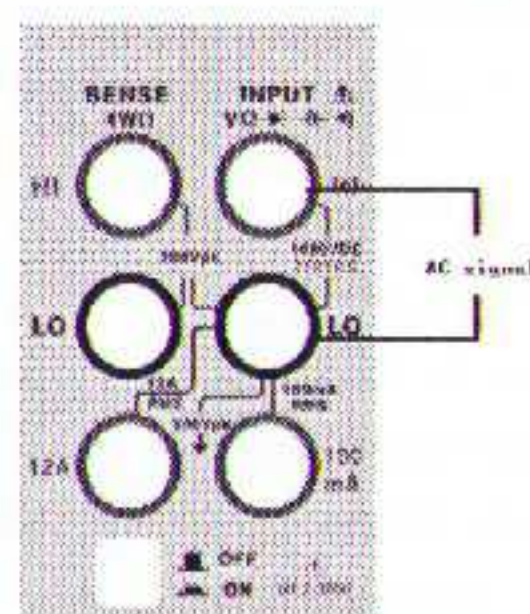

Figure 4-18 Wiring method
2. Connect the red and black test leads to the corresponding input terminals as shown in Figure 4-18.